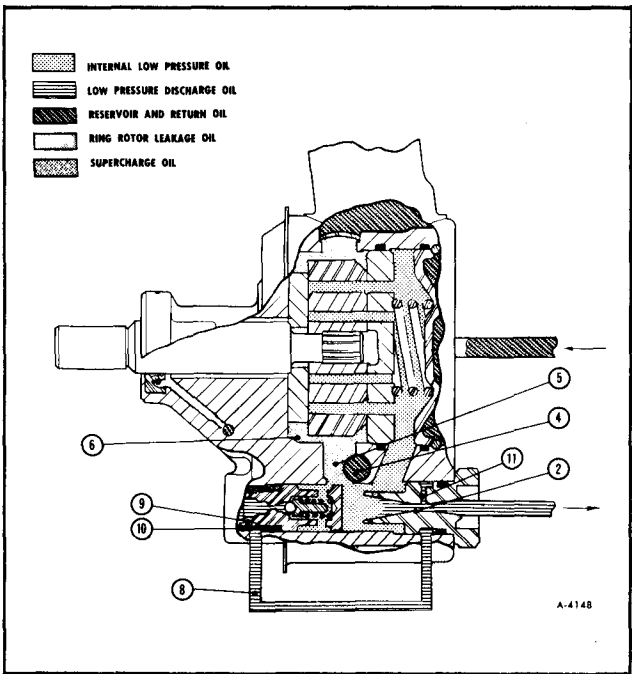

Figure 5—Moderate To High Speed Operation
**Moderate To High Speed Operation (Figure 5)**